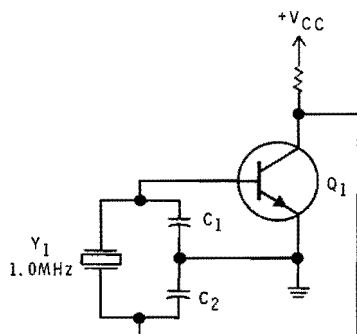

Figure 5-68
7. The crystal in the oscillator of Figure 5-68:
8. When the circuit of Figure 5-68 is operating at the crystal's resonant frequency, the crystal appears:
9. Capacitors C1 and C2 in Figure 5-68:
10. If the frequency of the oscillator in Figure 5-68 increases above the crystal's resonant frequency: